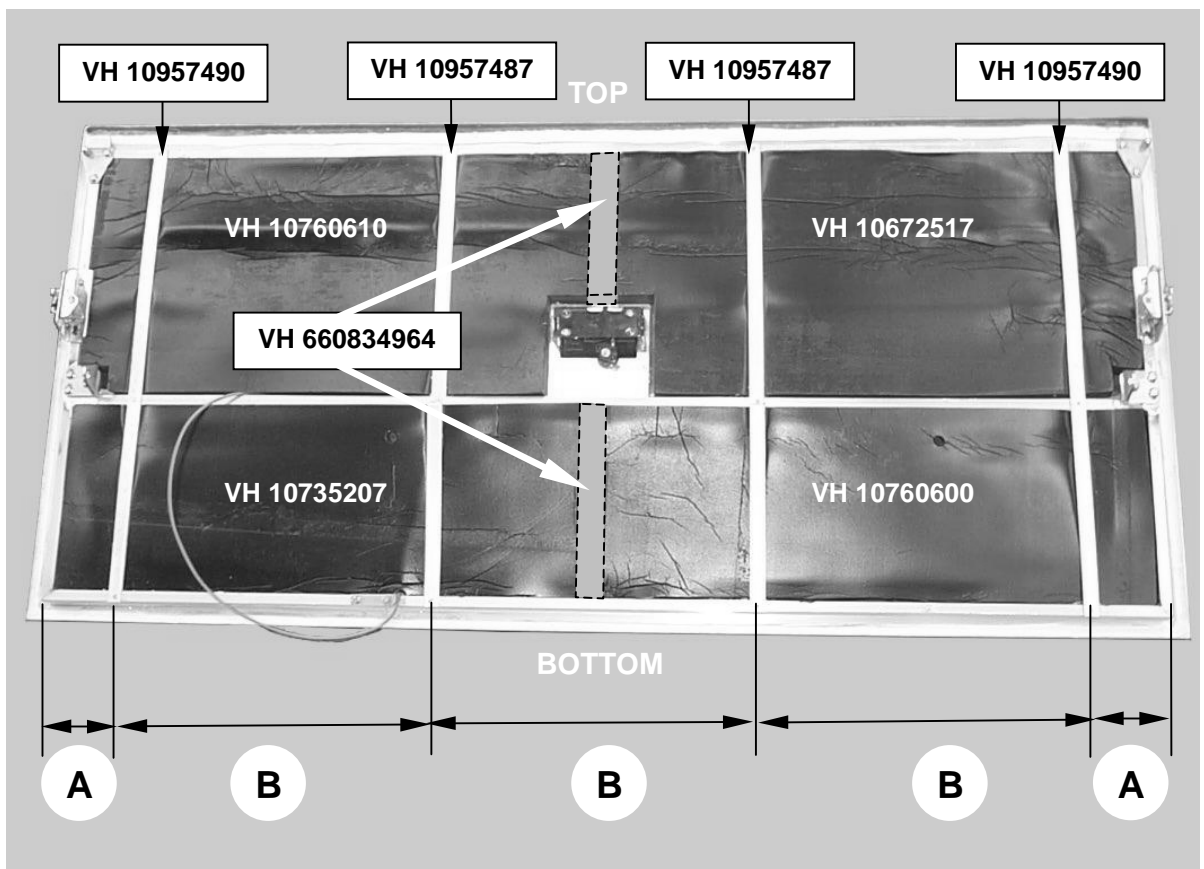

Figure 2: Location and installation dimensions of insulation mounting strips.
- 5) Refer to Figures 2 and 3 to install the mounting strips vertically one by one - the flat strips close to the door edges, the stepped strips close to the center part of the door.
- Place the strip in its appropriate location shown in Figure 2. Make sure the strip edges run parallel the doorframe. Secure temporarily with clamps.
- 6) Referring to Figures 2 and 3, join the mating edges of the insulation panels in the center with tank tape VH 660834964.